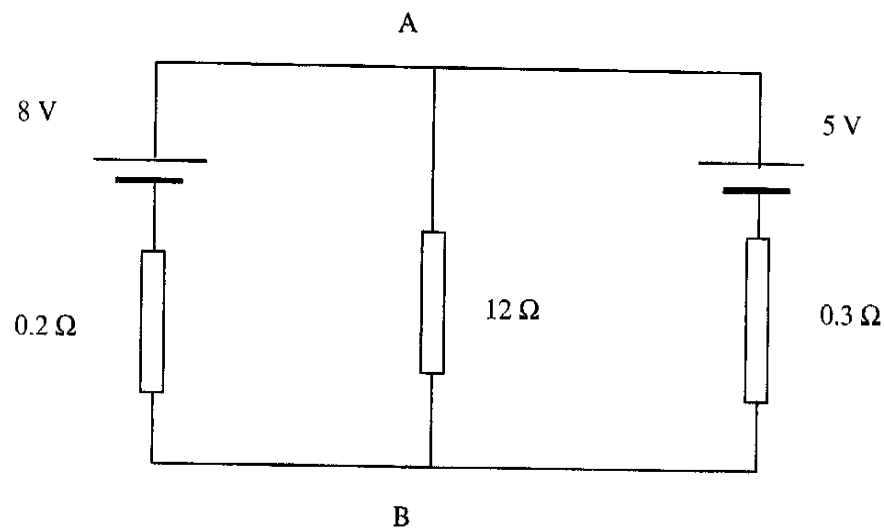

Fig Q1
1. (a) For the circuit shown in Fig Q1, calculate EACH of the following:
- (i) the current through the  $12\ \Omega$  resistor; (8)
- (ii) the p.d. across each resistor. (3)
- (b) Calculate the voltage  $V_{AB}$ , if the  $12\ \Omega$  resistor is now removed from the circuit. (5)